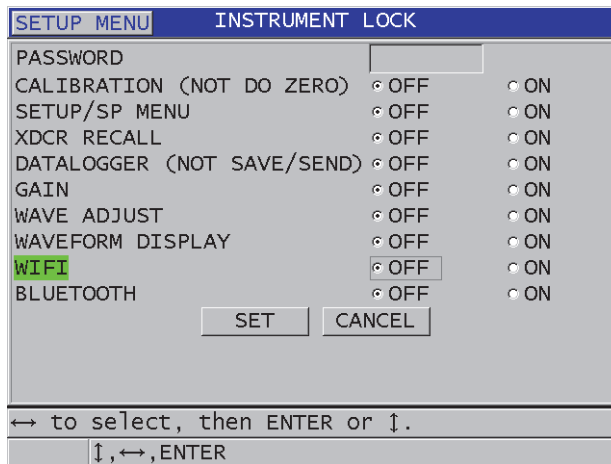

Figure 8-9 The INSTRUMENT LOCK screen
3. In the **INSTRUMENT LOCK** screen (see Figure 8-9 on page 142):